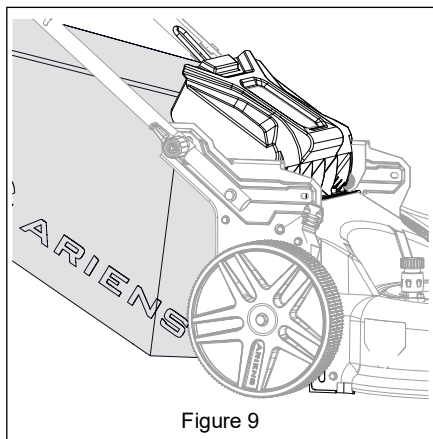

Figure 9
1. Lift rear door slightly and remove bag from bag mount. See Figure 9.
3. Hold rear door open and install grass bag onto bag mount. Release rear door. See Figure 9.